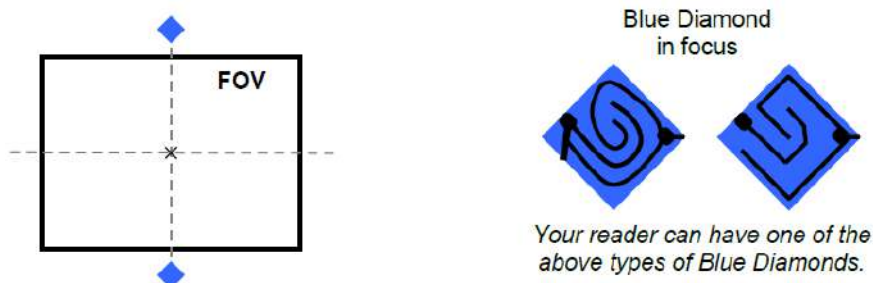

Figure 8 - Focus Function Using Blue Diamonds
- a. Adjust the Focus ring towards the “Near position” until the Blue Diamonds are perfectly in focus, see Figure 8. At long focal distances, a “skew” angle may cause a noticeable difference in focus between the two diamonds, in this case select the best possible focus (both diamonds slightly out of focus). Tighten the Diaphragm Locking Knob.